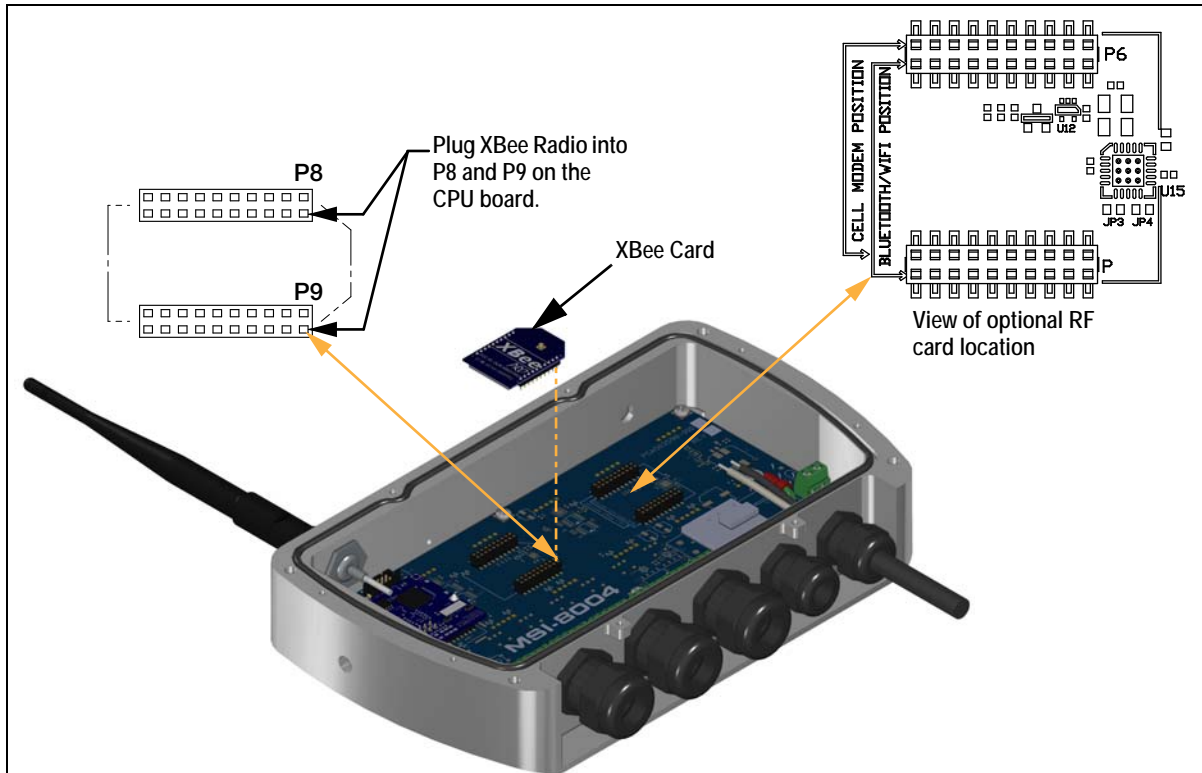

Figure 3-7. XBee Card Location
4. Align new card with the connection. Ensure it is in line with the correct holes. See Figure 3-7.